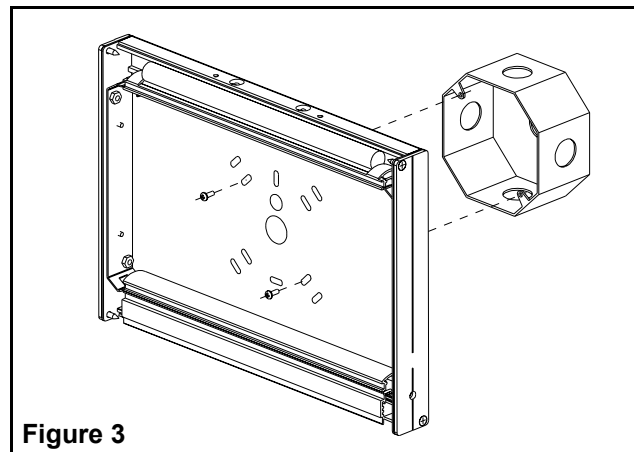

Figure 3
- Mount the exit sign securely to the junction box using the junction box screws (see fig. 3).